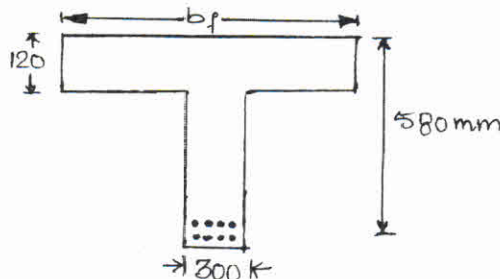

Fig.Q4(b)
b. A T-beam RC floor system consists of 120 mm thick slab supported by beams at 3m c/c. The effective width and depth of web is 300×580 mm as shown in Fig.Q4(b). Main reinforcement consists of 8 bars of 20 mm dia. The grade of concrete and steel used are M20 and Fe415 respectively. Determine the moment of resistance of T-beam, if it is used as simply supported beam of span 3.6 m.